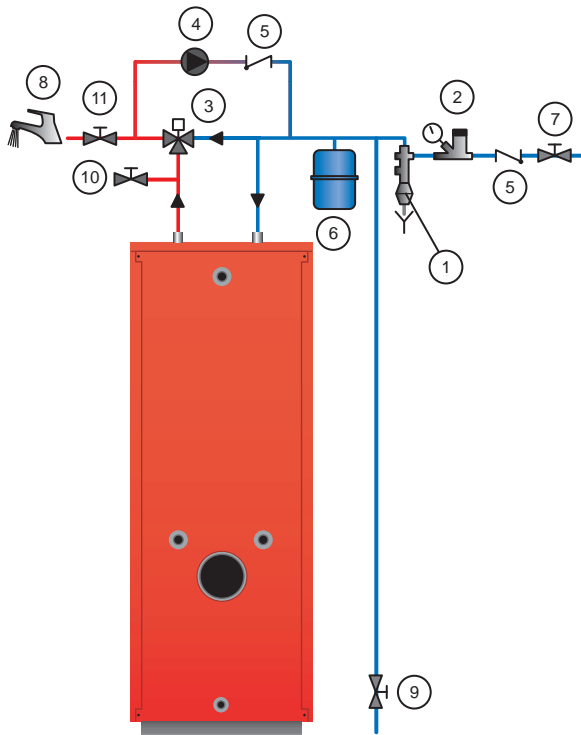

Fig. 19: Hot water connection
1. Fill the hot water circuit opening valves 7 and 8 and pressurise it. (Fig. 19, page 13)
Draining the hot water circuit (Fig. 19)